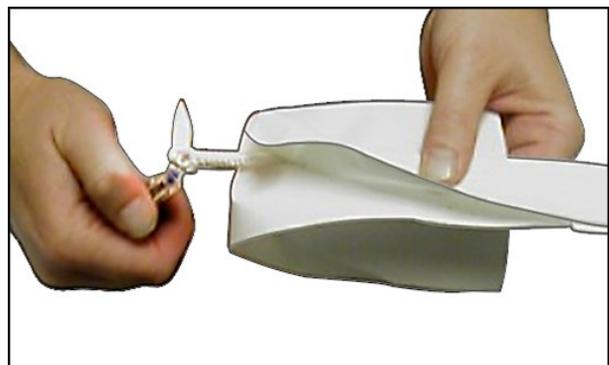

Fig. 4
Step 4: Burn the cover rope-end as well as the splice rope-end. *(Fig. 4)*